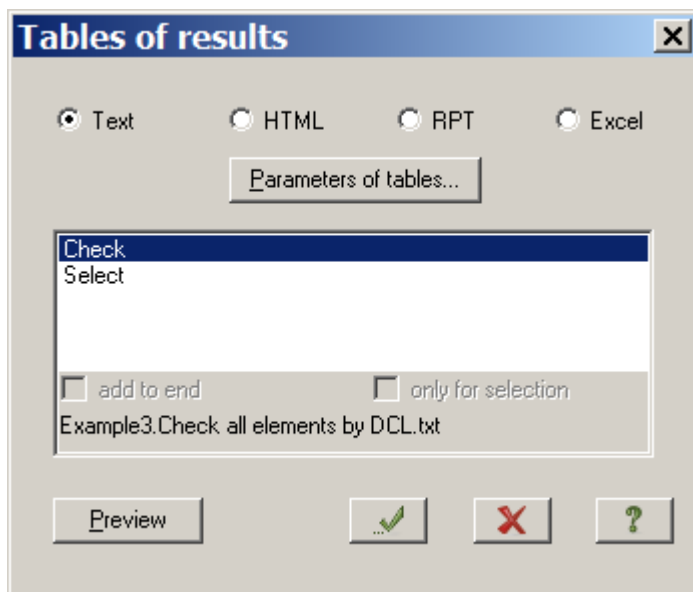

Figure 3.34 **Tables of results (steel analysis)** dialog box
- ⇒ In the **Table of results** dialog box (see Fig.3.34), select the **Check** option.